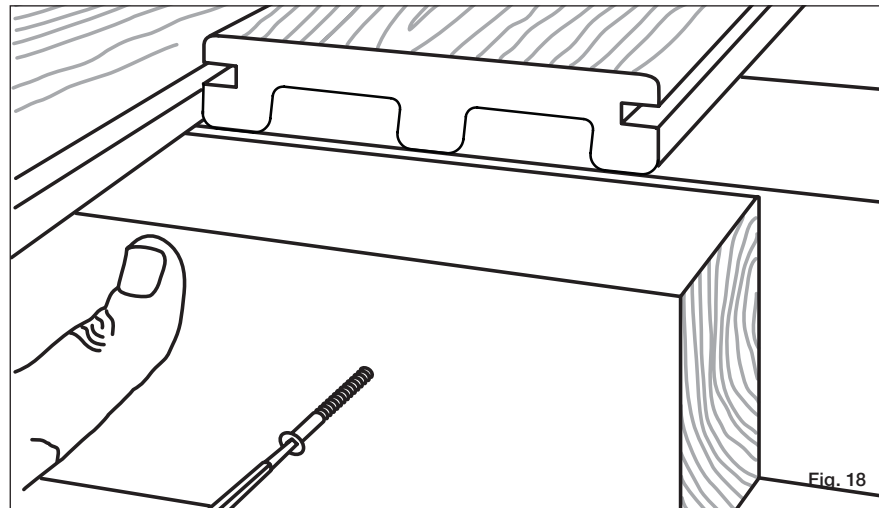
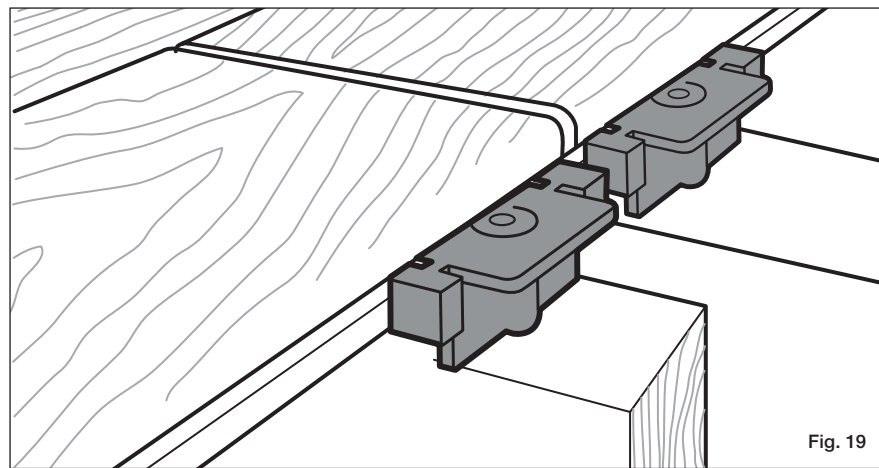

Fig. 18
Fig. 19
Step 7 Install one Stowaway fastener at each joist location along the length of the board. For installations where deck boards are butted end-to-end at the joist, an 8" block must be added using a Stowaway hidden fastener clip at the end of each board (Fig. 18 and Fig. 19). Be sure to gap the boards as previously described.